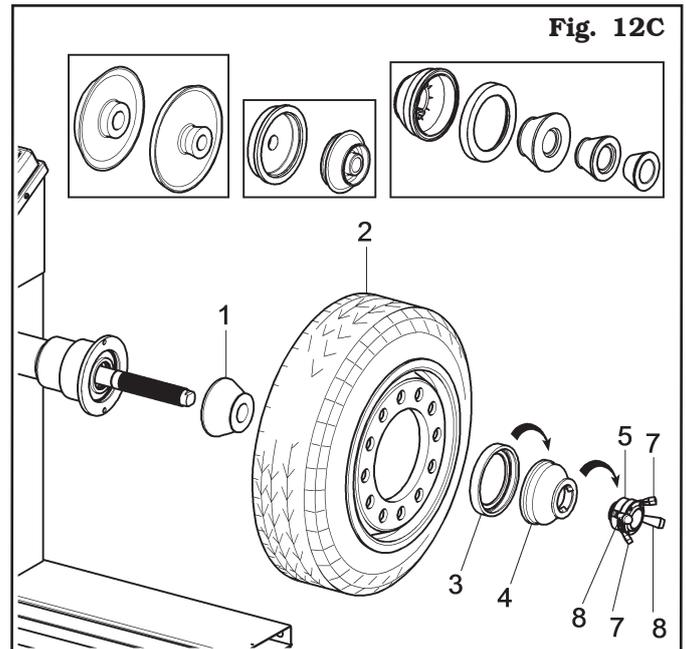

Fig. 12C
If the cone (**Fig. 12C ref. 1**) is inserted into the shaft before the wheel (**Fig. 12C ref. 2**) (make sure the selected cone (**Fig. 12C ref. 1**) is the most appropriate one for the wheel to be balanced (see insets **Fig. 12C**)), mount the casing (**Fig. 12C ref. 3**) onto the protection cup (**Fig. 12C ref. 4**) and insert both into the locking ring nut (**Fig. 12C ref. 5**). With the internal little levers (**Fig. 12C ref. 7**), bring the locking ring nut (**Fig. 12C ref. 5**) together with the protection cup (**Fig. 12C ref. 4**) into contact with the rim and clamp it onto this rim using the external little levers (**Fig. 12C ref. 8**).